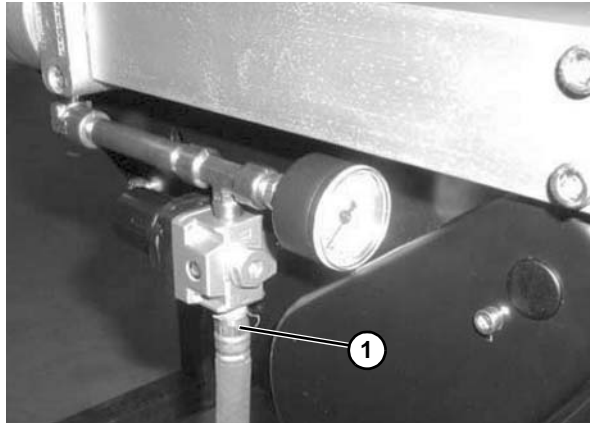

Figure 46
3. Remove air supply and remove hose (Figure 46, item 1) from the center drive.